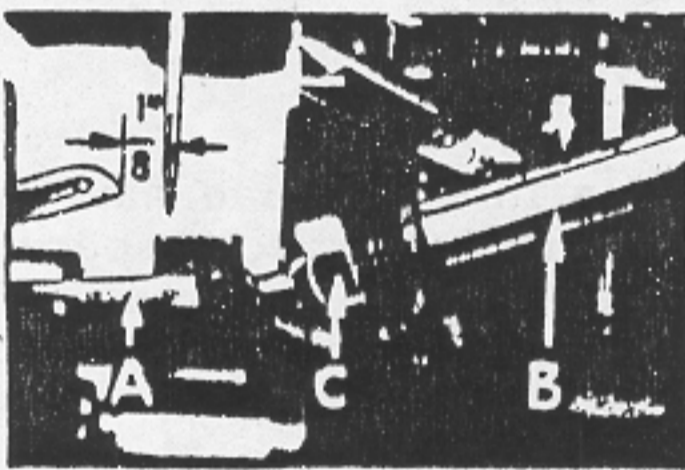
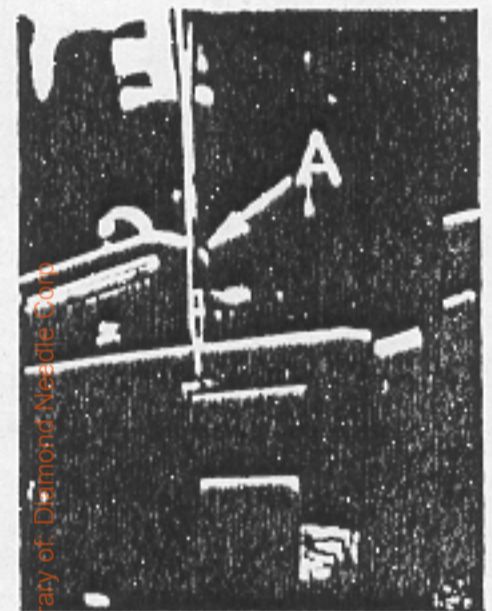

Fig. 5
Fig. 7
Insert the 503 stitch lower looper (A, Fig. 5) into bar (B). With lower looper at left end of its stroke set looper point  $1/8$  inch from center of needle (Fig. 5) using looper gauge No. 21225- $1/8$ . Do not have lower looper deflecting needle. Do not lock looper nut (C) because the looper point will have to be set to the needle scarf after the rear needle guard has been assembled and positioned. (See paragraph under "Final Setting of Lower Looper.")
Now finish lower looper adjustment. As lower looper moves to the right its point should be set into the needle scarf (A, Fig. 7) until the needle springs forward from the rear needle guard surface another  $.002$  to  $.004$  inch. This setting is obtained by rocking the looper forward or backward around its shank. Recheck the  $1/8$  inch looper gauge setting and tighten nut (C, Fig. 5).